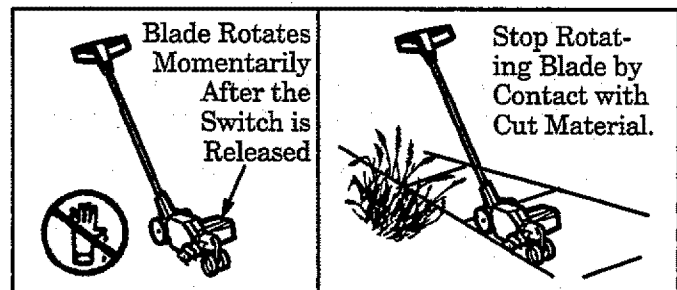

Figure 7
4. To stop the motor, release the switch; allow blade to stop turning before removing it from the cut. Figure 7.